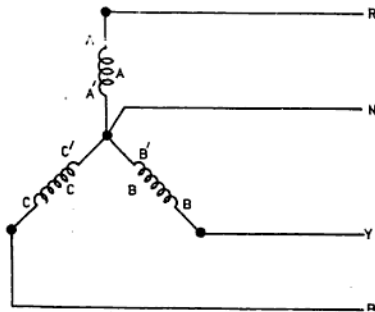

Fig. 12.8: Three-phase star connection
the three ends of the three windings are connected together to form a common or neutral point. In Fig. 12.8,  $AA$  is the first winding,  $BB$  the second winding and  $CC$  the third winding.  $A$ ,  $B$  and  $C$  are connected together to form the neutral terminal and the remaining three terminals  $A$ ,  $B$  and  $C$  are the three phases which are marked in Fig. 12.8 as  $R$ ,  $Y$  and  $B$ . This system is also known as a three-phase, four-wire system.
**Relation between Phase Current and Line Current and between Phase Voltage and Line Voltage in Star Connection** From Fig 12.8 it is clear that the current flowing through the phase windings will be the same as that flowing through the respective phase wires (i.e. line current).